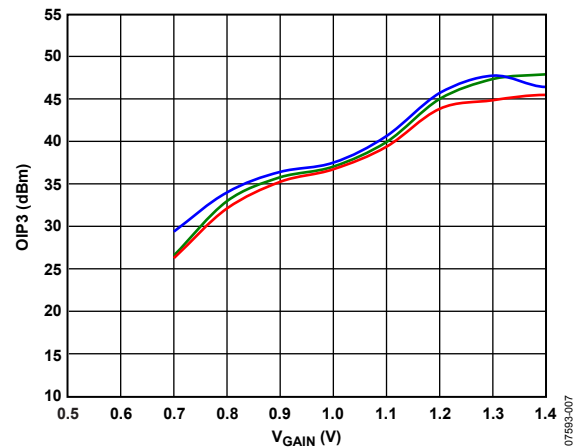

Figure 7. Output IP3 vs.  $V_{\text{GAIN}}$  at 100 MHz
At high gain settings, the noise floor is set by the input stage, in which case the noise figure (NF) of the device is essentially independent of the gain setting. Below a certain gain setting, however, the input stage noise that reaches the output of the attenuator falls below the input-equivalent noise of the output stage. In such a case, the output noise is dominated by the output stage itself; therefore, the overall NF of the device gets worse on a dB-per-dB basis as the gain is lowered, because the gain is reduced below the critical value. Figure 7 through Figure 9 provide details of this behavior.
The 1 dB input compression point remains constant at 3 dBm through the majority of the gain control range, as shown in Figure 7 through Figure 9. The output compression point increases decibel for decibel with increasing gain setting. The noise floor is constant up to  $V_{\text{GAIN}} = 1$  V where it begins to rise.